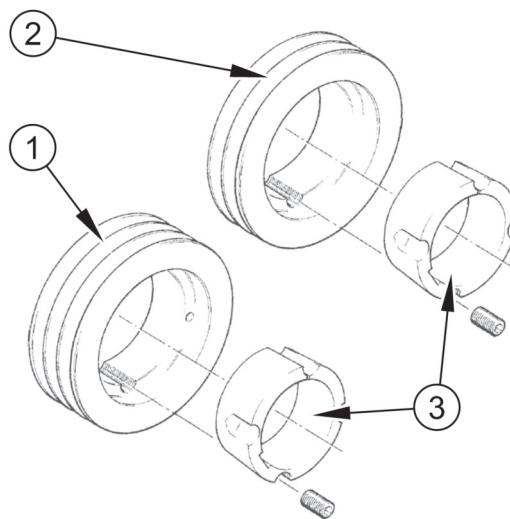

Figure 11
Figure 11 shows a taper lock drive for belt driven PTO arrangements.
Five inch 'A' section pulley with 3 grooves (figure 11 item 2) and five inch 'B' section pulley with 2 grooves (item 1) are recommended, secured in place by taper locks (item 3).